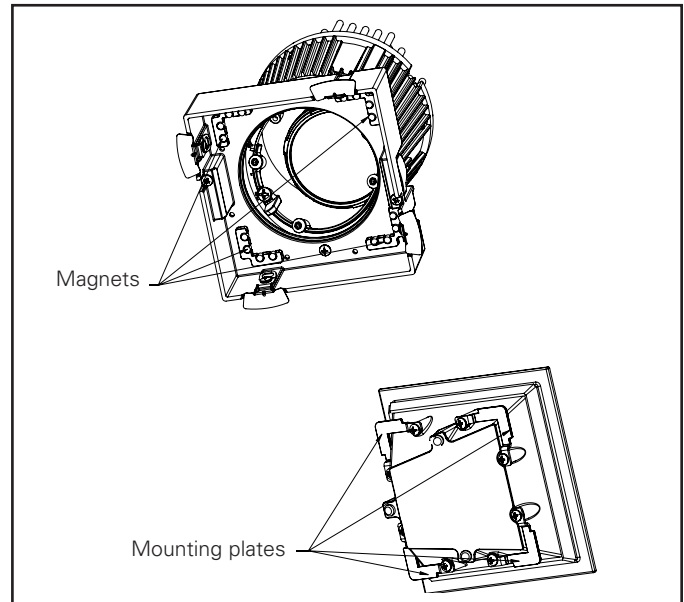

Figure 12.
6. Align mounting plates with magnets and place trim against ceiling (Figure 12).